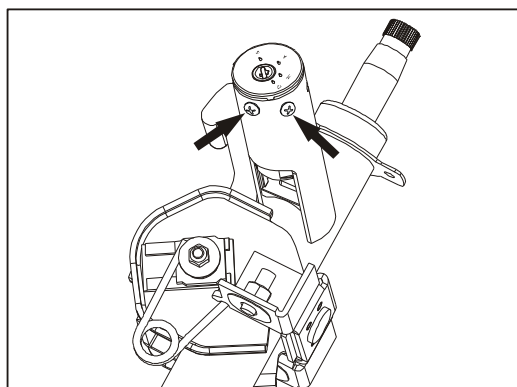

Figure 6-16 Disassembly of ignition switch
4. Cut off the cable joint of the ignition switch, screw off the two stop screws and take down ignition switch assembly as shown in Figure 6-16.